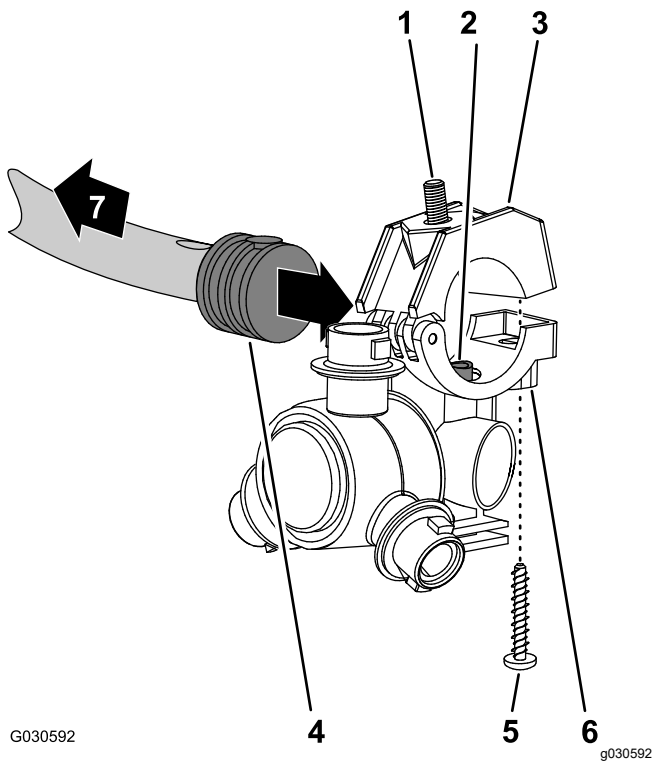
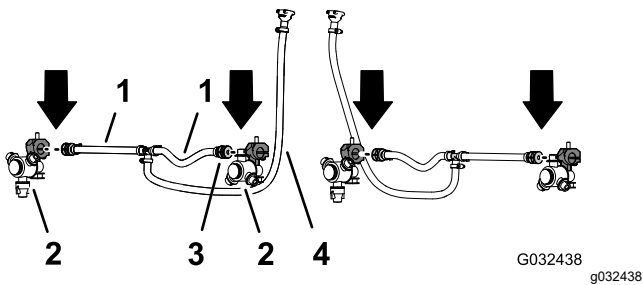

Figure 58
Figure 59
2. Working with the 2 sprayer nozzle from the GeoLink spray system finishing kit, remove the stainless steel screw that secures the upper clamp half to the saddle (Figure 58).
3. Locate the hole in the side of single barbed-hose shank at the end of the hose 25 cm (10 inches) of the hose assembly (sprayer valve 5 or 6) for the center-spray section (Figure 58 and Figure 59).
4. Align the transfer tube in the saddle of a sprayer nozzle (Figure 58) with the hole in the side of the single barbed-hose shank (1/2 inch).
5. Close the upper clamp half around the barbed-hose shank and secure the clamp half and spray-nozzle body (Figure 58) with the stainless steel screw (#12 x 1-1/4 inches); torque the stainless steel screw to 14 to 18 N·m (20 to 25 in-lb).
6. Working with the sprayer nozzle, hex-head bolt, and stainless steel screw that you removed in steps 1 and 2 of Removing the Sprayer Nozzles (page 28), repeat steps 3 through 5 to the single barbed-hose shank (Figure 58 and Figure 59) at the end of the other hose 25 cm (10 inches).
7. Working with the 2 sprayer nozzles that you removed in step 4 of Removing the Sprayer Nozzles (page 28), repeat steps 3 through 5 to the single barbed-hose shanks of the other hose assembly (sprayer valve 5 or 6) for the center-spray section (Figure 58 and Figure 59).